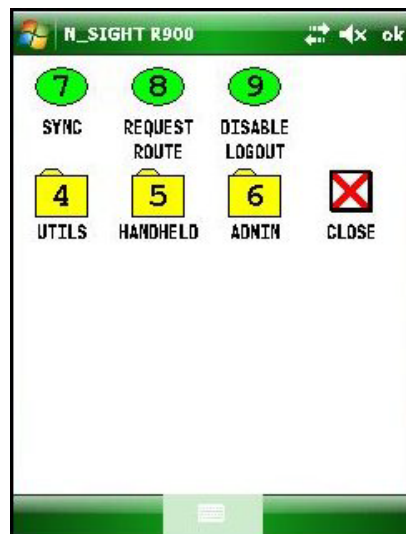

Figure 11.2 N\_SIGHT R900 Main Menu
The N\_SIGHT R900 Main Menu appears, as illustrated in Figure 11.2.
- 2 The N\_SIGHT R900 Main Menu appears as illustrated in Figure 11.2 on Page 11-6.